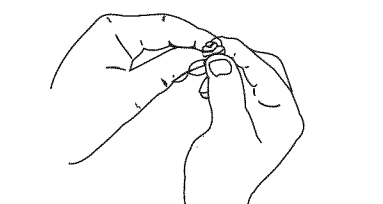

Fig. 37
5. Squeeze the filter to spread and remove excess oil (Fig. 37).